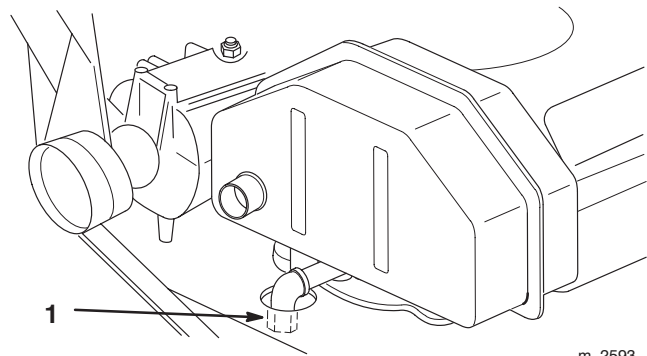

Figure 20
3. Place a pan below the oil drain. Remove the oil drain cap (Figure 20).